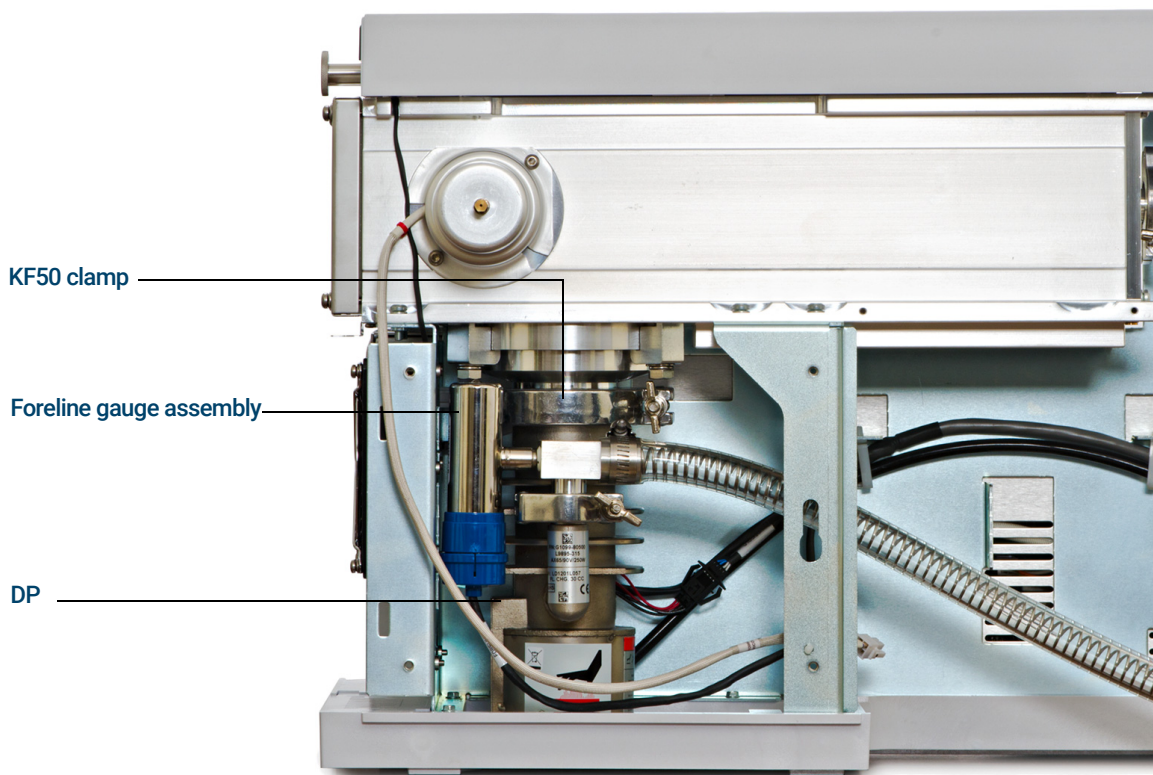

Figure 13. Removing the DP
- 6 Remove the KF50 clamp. (See **Figure 13.**)